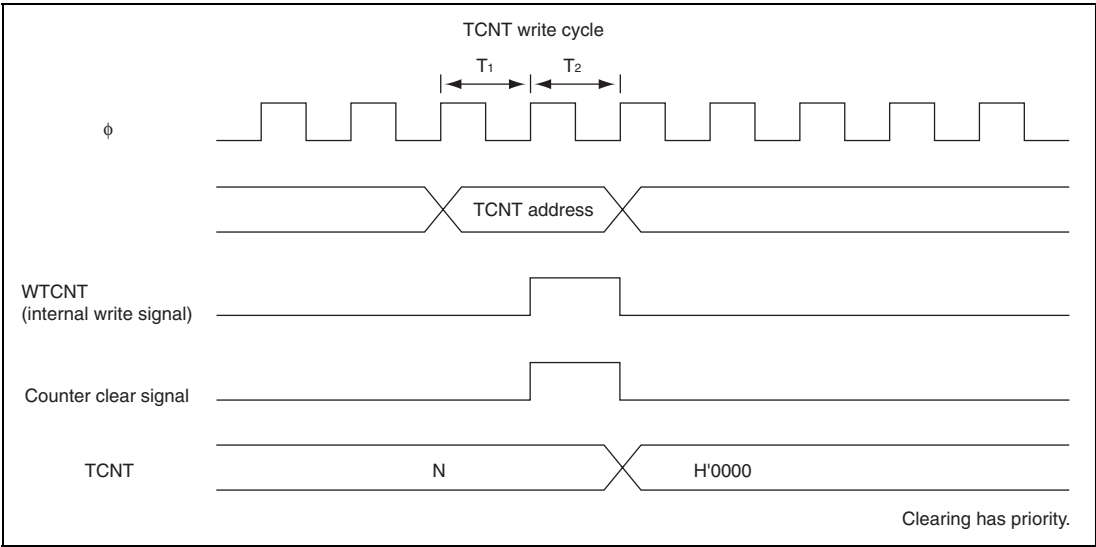

Figure 13.52 Contention between TCNT Write and Clear Operations
1. Contention between TCNT Write and Clear Operations: If a counter clear signal is generated in the T_2 state of a TCNT write cycle, TCNT clearing has priority and the TCNT write is not performed. Figure 13.52 shows the timing in this case.